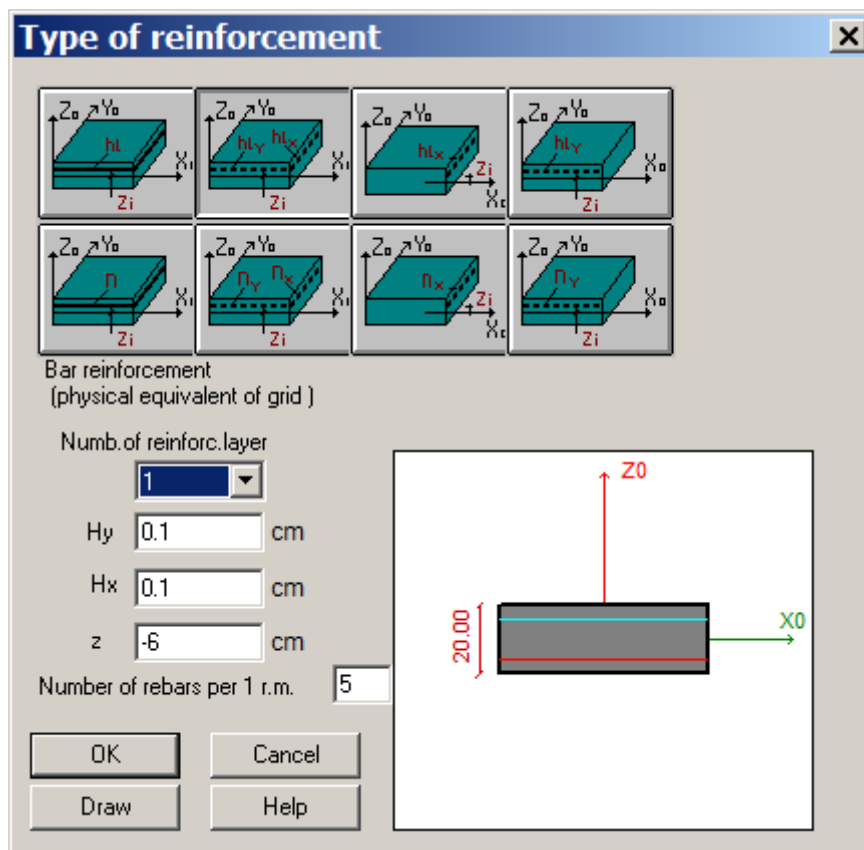

Figure 16.11 The **Type of reinforcement** dialog box
- ⇒ The **Type of reinforcement** dialog box appears on the screen (see Fig.16.11).